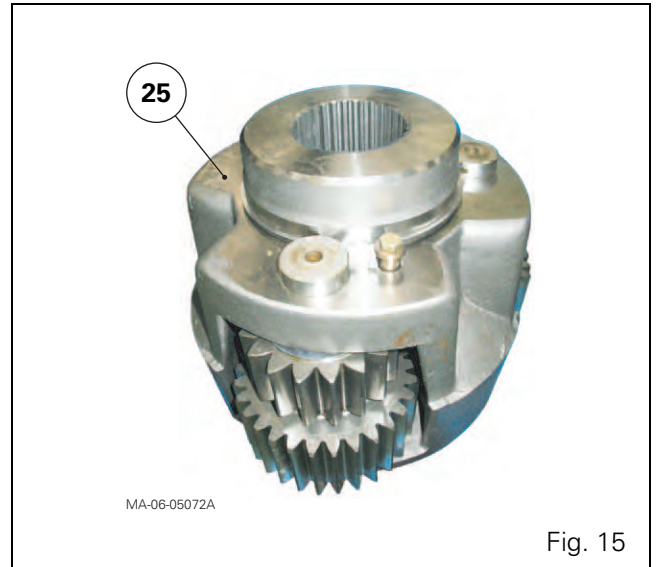

Fig. 15
- The hub (32), spacer (30) and shaft/sun gear (29) (see § D).
50. Take out screw (28), washer (27), and shim(s) (26).
Remove the planet carrier assembly (25) (Fig. 15) using a suitable sling.
51. Remove the ring gear (15) (see § D).